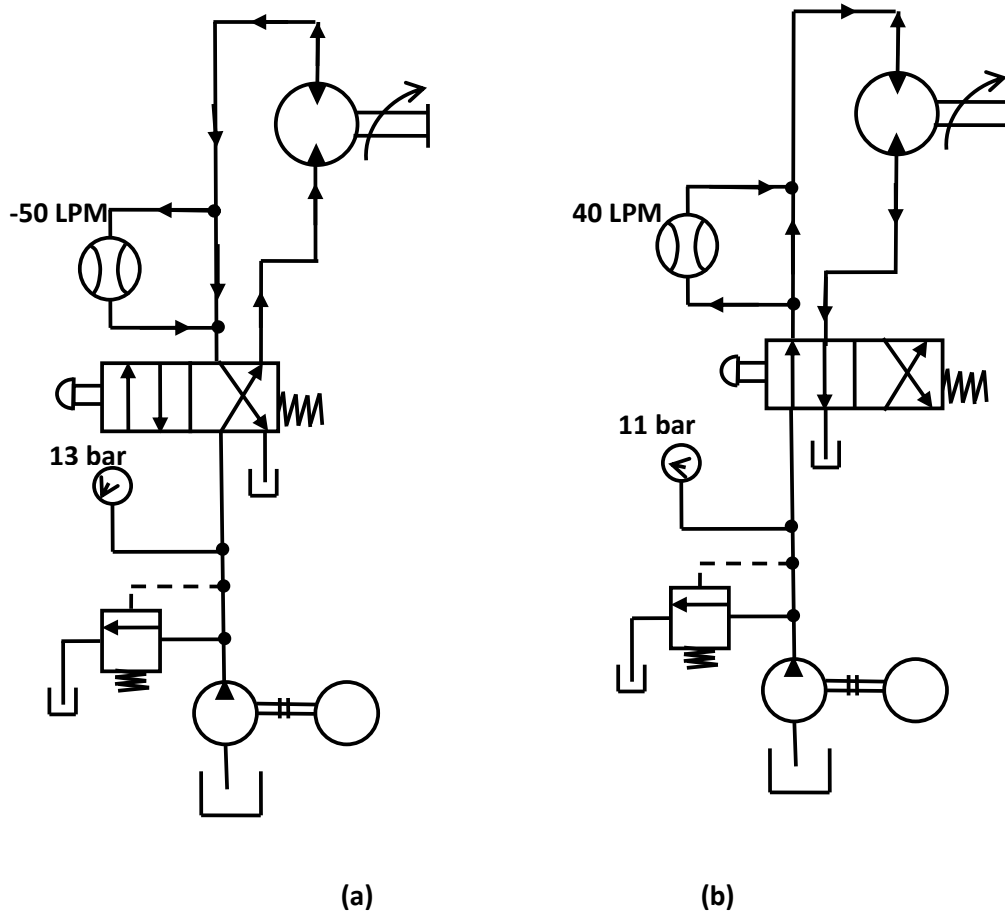

Figure 1.18 Application of 4/2-way valve – control of a bi-directional motor.
2. **Application of 4/2 DCV for controlling bi-directional motors:** A four-way DCV is also used to control bi-directional hydraulic motors. Figure 1.18 shows the schematic for this application. Unlike the cylinder, the motor rotates continuously and does not force the fluid over the pressure relief valve.